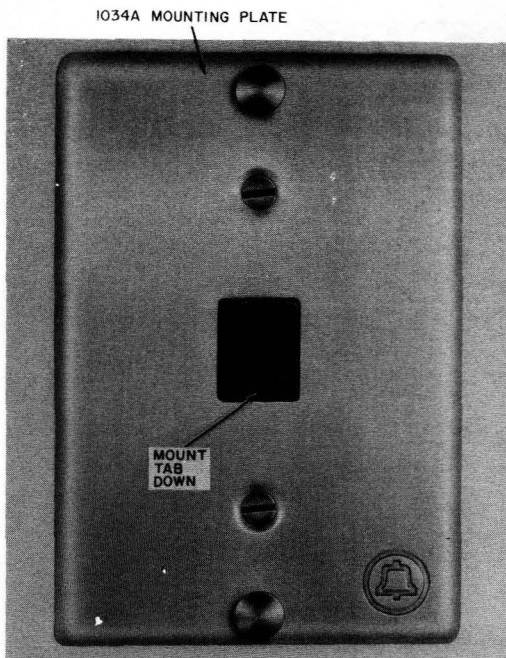

Fig. 10—630A4 Connecting Block (With Mounting Plate)
3.14 630A4 Connecting Block: This block may be mounted on a 63-type bracket or electrical type outlet box or mounted directly on a wall. In all cases, the block should lie flat against the wall with connector springs oriented to the top and tab to the bottom (Fig. 10). ♦When installing the 630A4 connecting block with the 1034A mounting plate, remove the plastic protection film from the mounting plate.♦